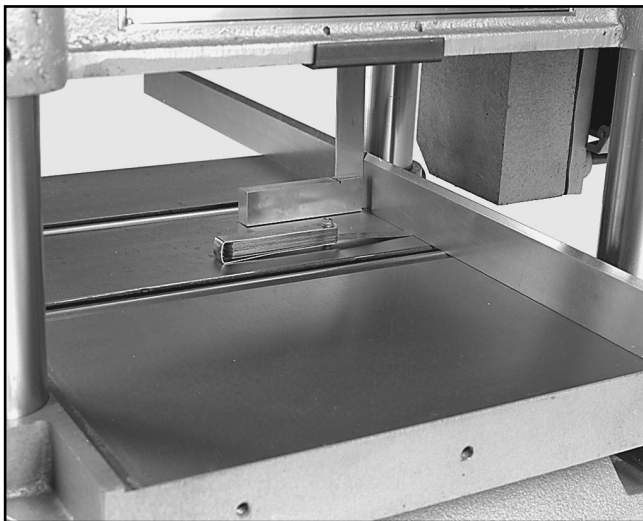

Figure 27. Inspecting bed roller height.
2. Use a feeler gauge to measure the clearance between the bottom of the straight edge and the table. Ideal clearance is between 0.002" and 0.005". Measure in several places. This measurement must be consistent across the entire table. **See Figure 27.**